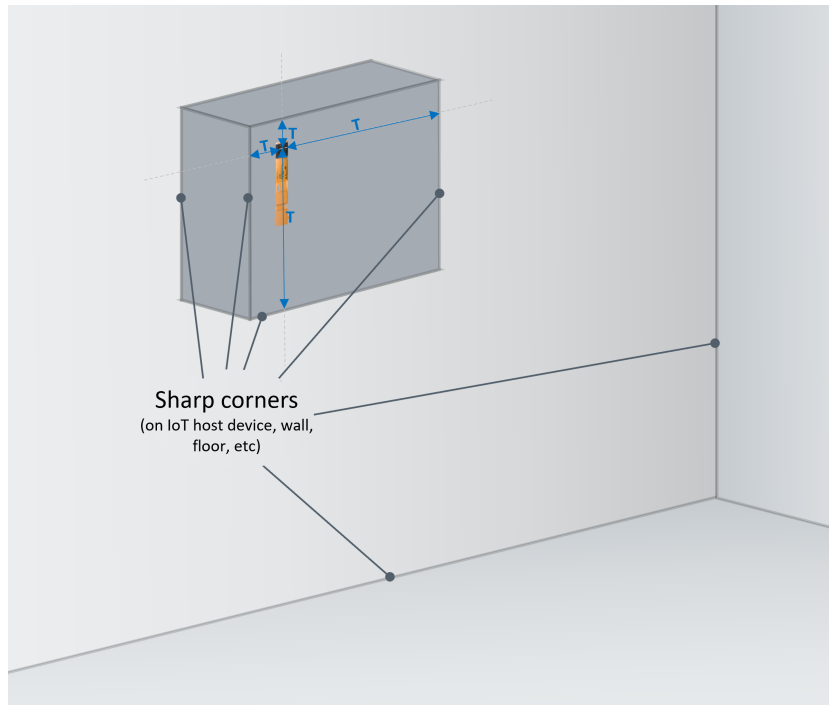

Figure 12: Placement of BMV080 away from sharp edges
- **Sensor location in the host system:** place the BMV080 minimum 17 mm away from sharp edges to avoid turbulent air flows that could affect the sensor performance, see Figure 12.